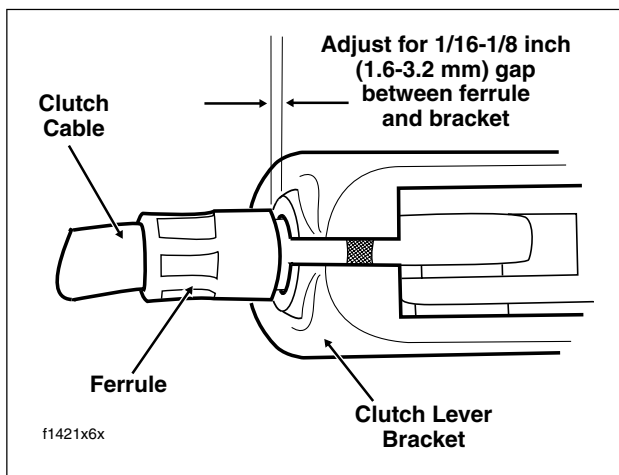

Figure 1-7. Adjust Clutch Free Play
7. Turn cable adjuster away from jam nut until slack is eliminated at hand lever. Pull clutch cable ferrule away from clutch lever bracket to check free play. Turn cable adjuster as necessary to obtain 1/16 to 1/8 inch (1.6 - 3.2 mm) free play between end of cable ferrule and clutch lever bracket, as shown in Figure 1-7.